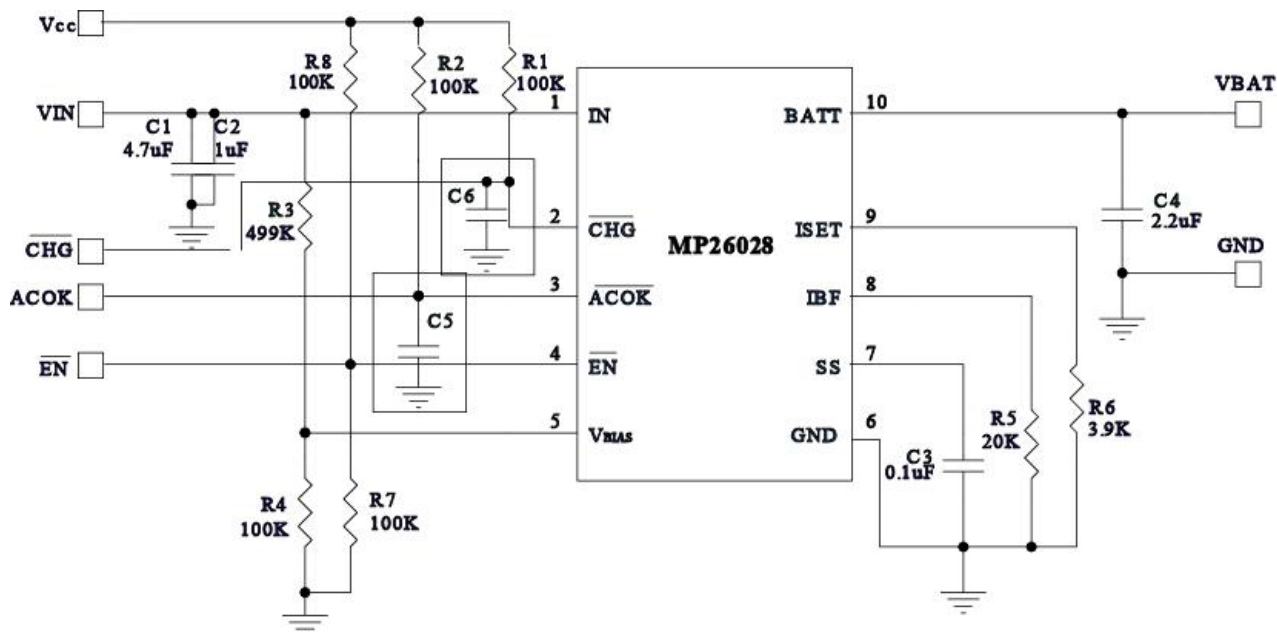

Figure 5—Filtered Charge Status & Input Power Good Interface
When interfacing with the system, glitches may occur on the power supply input (IN) when the AC-power adaptor is plugged in and out. It is desirable to blank the glitches so that the system can properly operate with AC power adaptor. A simple Solution is to add the RC filter (C5 and C6) on the pin  $\overline{ACOK}$  /  $\overline{CHG}$  as shown in Figure 5. The size of C5 and C6 depends on the width of the glitch and the rise time of the interface.
Power-On Reset (POR) feature can be applied to the MP26028 to ensure that the device starts operating in a known state. The flow chart in Figure 5 describes the conditions and operation